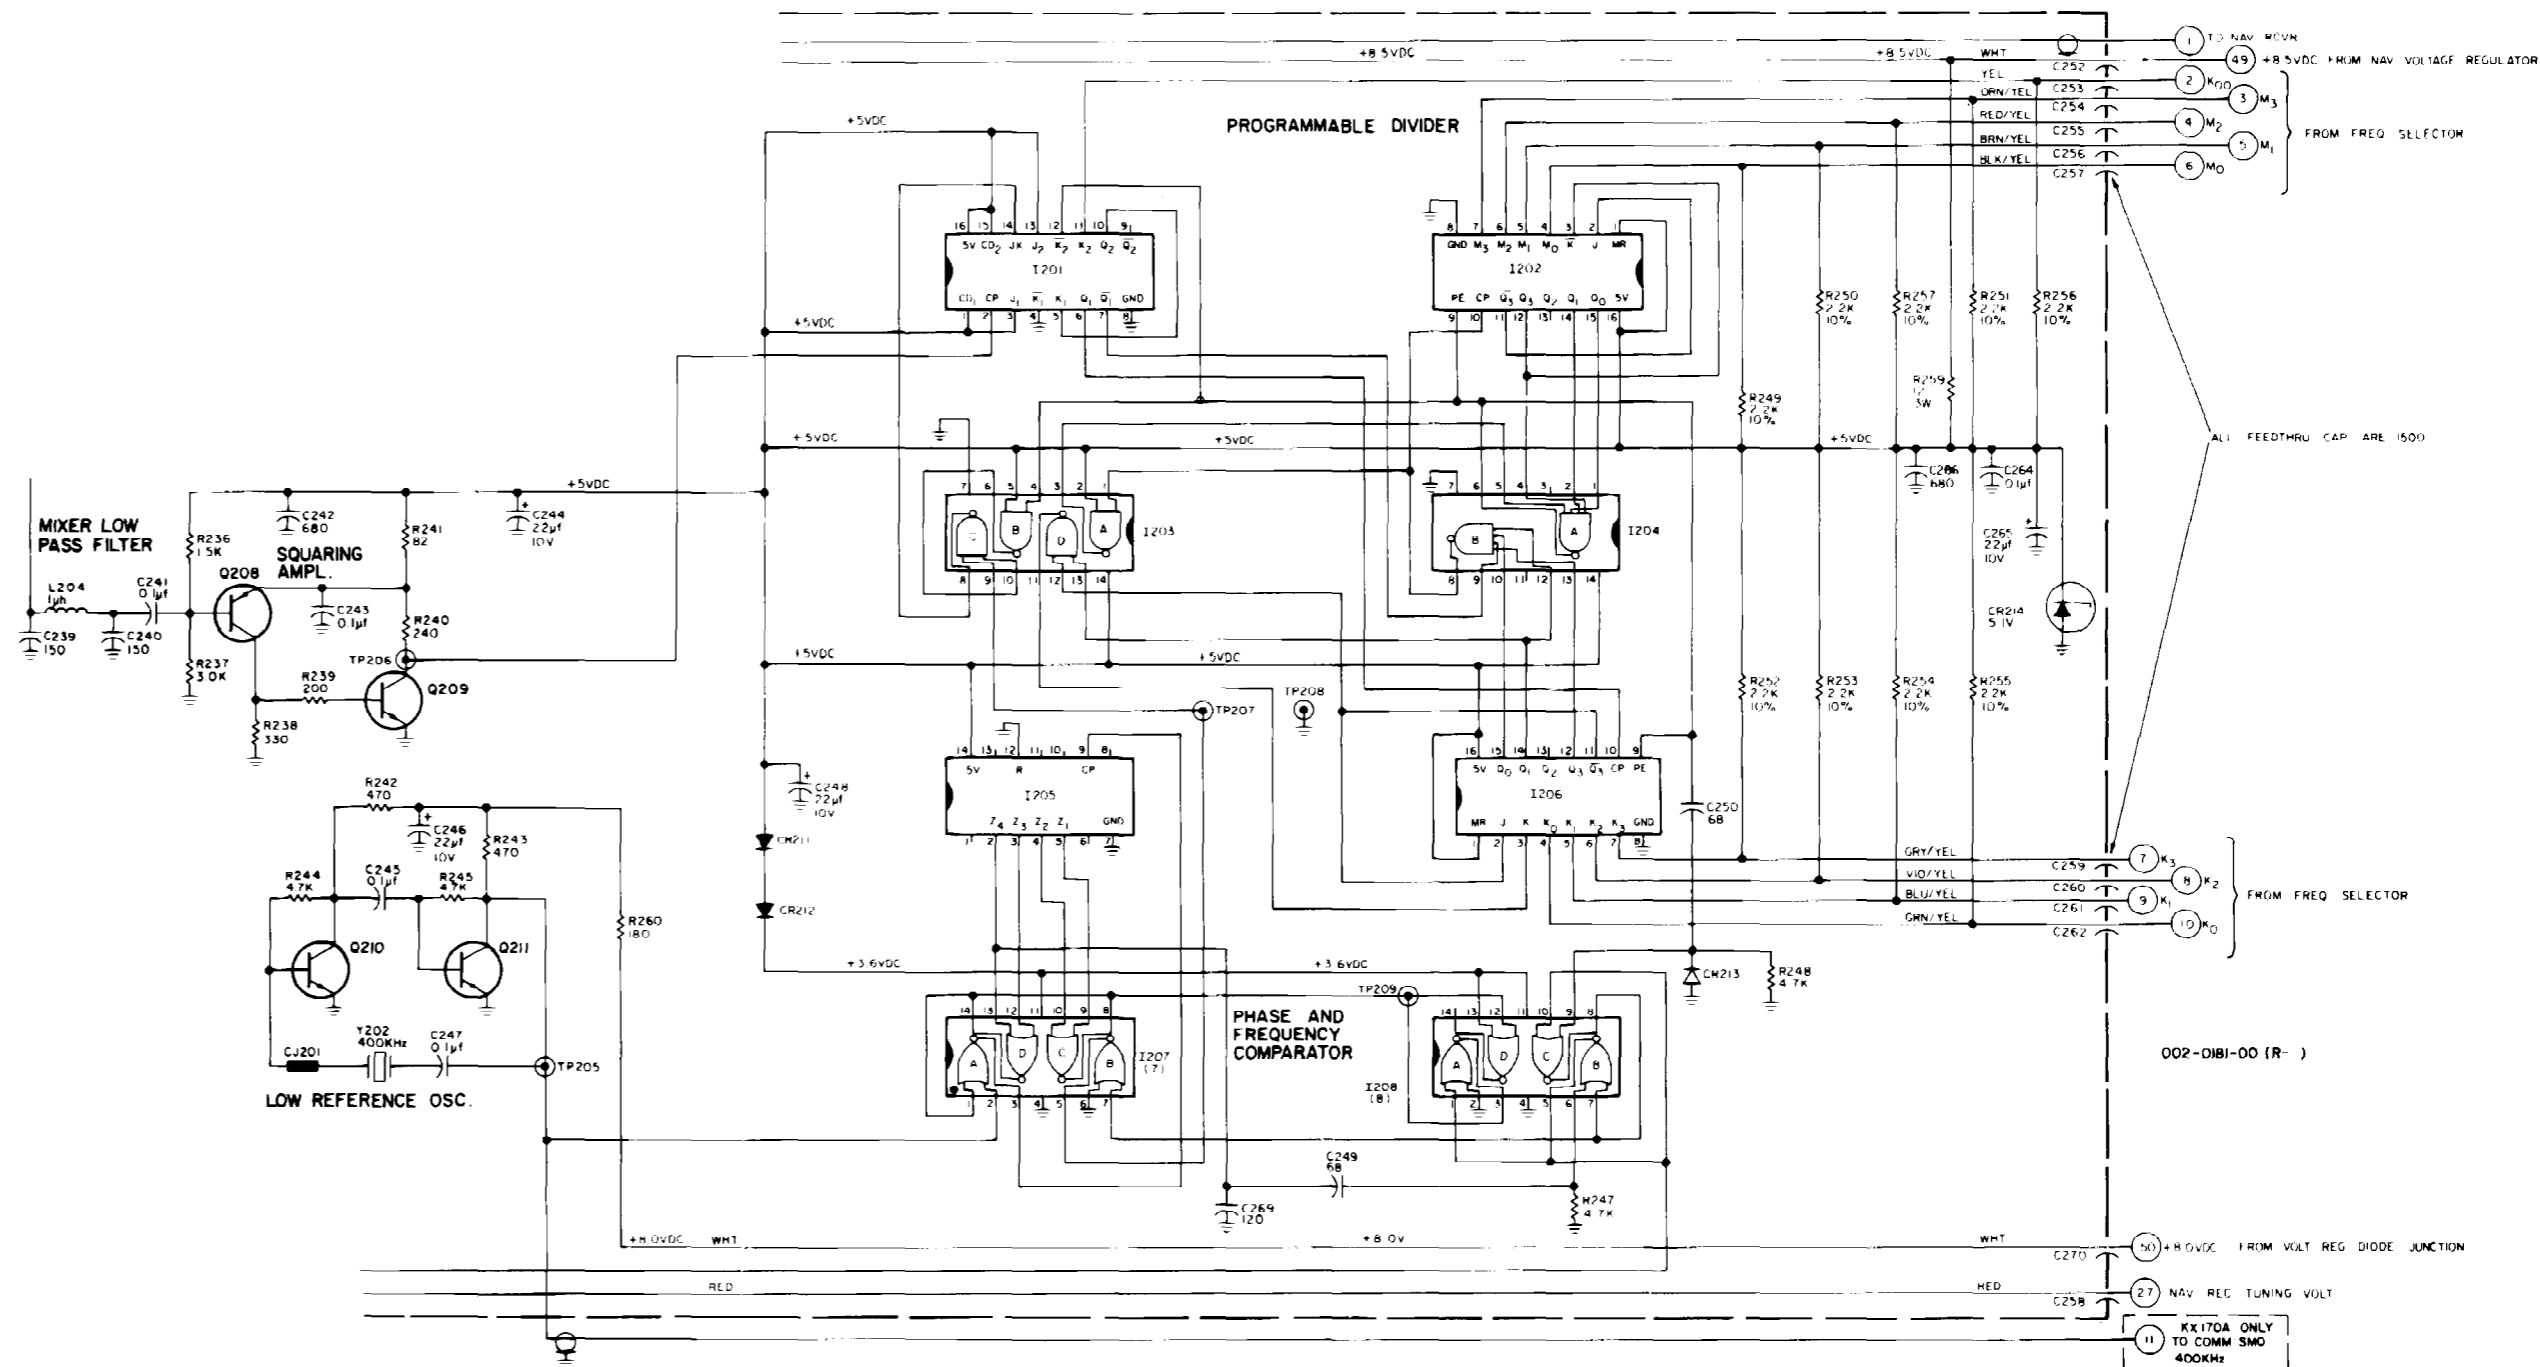

FIGURE 5-19
5. 5. 3 PROGRAMMABLE DIVIDER (FIGURE 5-19)
5.5.4 PHASE AND FREQUENCY COMPARATOR (Figure 5-19)
5.5.5 LOW REFERENCE OSCILLATOR (Figure 5-19 NAV) (5-29, COMM)